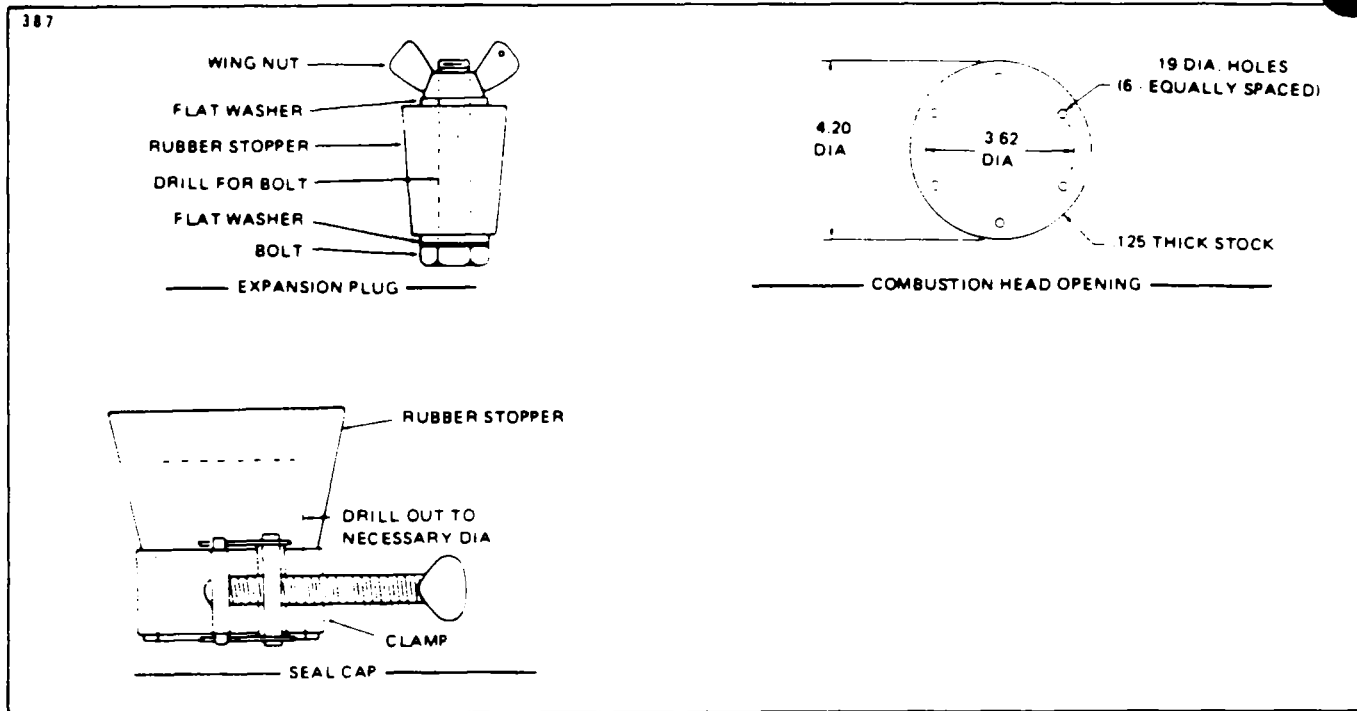

Figure 21-3. Suggested Design for Seal Plate, Plugs and Caps for Combustion Tube Leakage Test
- A. Fashion a sealing plate from approximately .125 inch thick flat stock to seal the nozzleholder opening in the combustion tube assembly. (Refer to Figure 21-3.) Use a rubber gasket under the plate and attach the plate with six screws.
B. Make up seals for all remaining openings, except the one used to connect the air pressure source. (Refer to Figure 21-3.) Use rubber stoppers as shown. The combustion air inlet tube can be sealed best with a drilled stopper and clamp. Other openings should be sealed with expansion plugs. The seal used in the exhaust tube should be formed so that it will not deform the air pressure switch tube which protrudes into the exhaust.